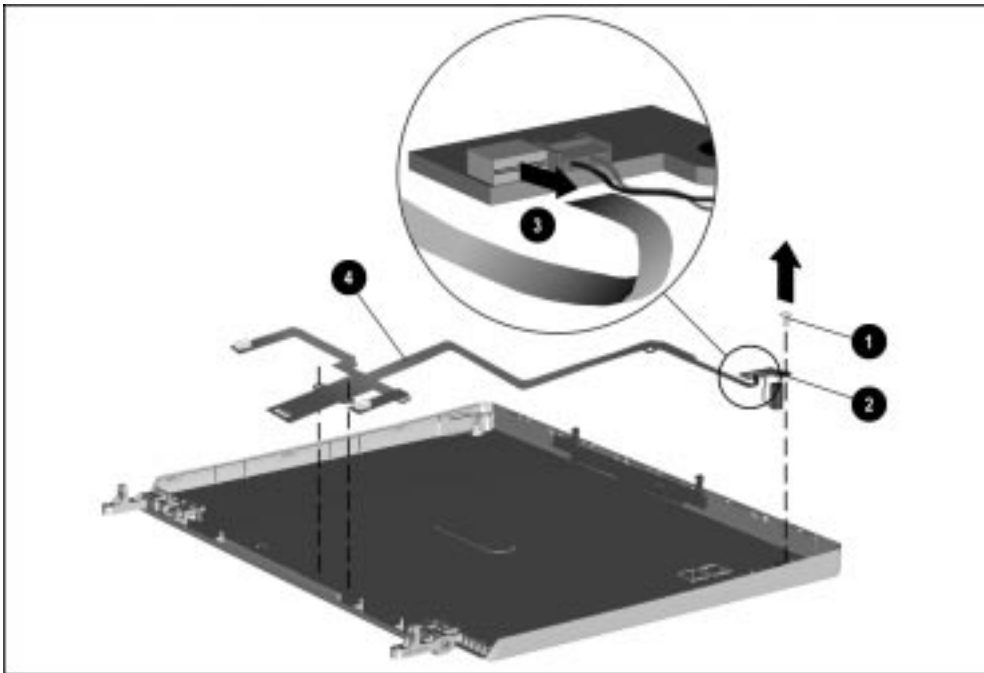

Figure 5-72. Removing the Display Audio Cable and Microphone Assembly
13. Remove the screw securing the microphone assembly to the display enclosure ❶ (Figure 5-72).
14. Remove the microphone assembly ❷ from the display enclosure.
15. Disconnect the display audio cable from the microphone assembly ❸.
16. Remove the display audio cable from the display enclosure ❹.